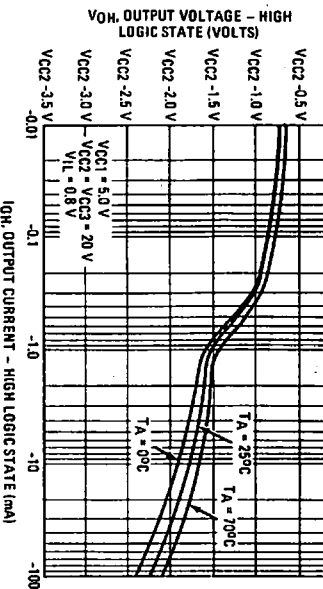

FIGURE 6 - TOTAL POWER DISSIPATION VERSUS FREQUENCY
The power dissipation of the device (PD) is dependent on the following system requirements: frequency of operation, capacitive loading, output voltage swing, and duty cycle. The variation of power dissipation with frequency and load capacitance for the MC75365 is illustrated in Figure 6. The power dissipation, when substituted into equation (2), should not yield a junction temperature, TJ, greater than TJ(max) at the maximum encountered ambient temperature. TJ(max) is specified for two integrated circuit packages in the maximum ratings section of this data sheet.